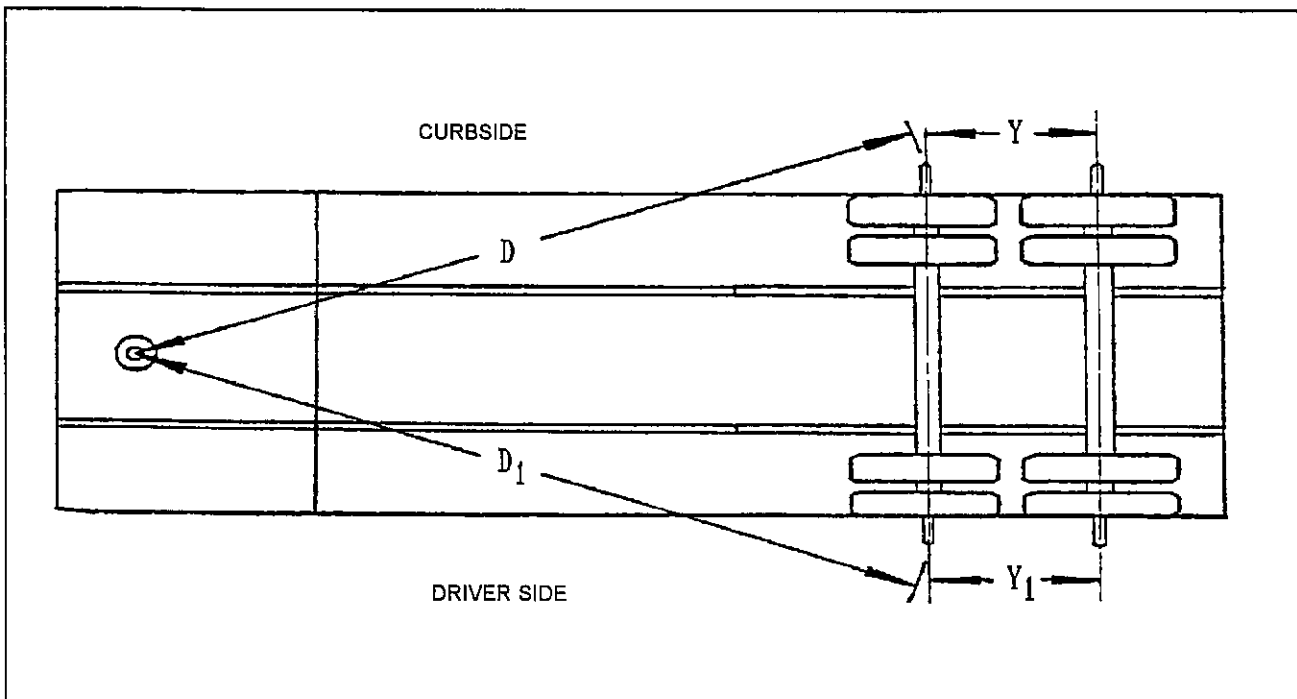

Figure 4-7 Checking Axle Alignment
5. Measure (D) from the plumb bob to the center point on one end of the axle. Record this measurement (See Figure 4-7).
6. Measure (D1) to the other end of the axle in the same manner as in Step 4. Record this measurement (See Figure 4-7).